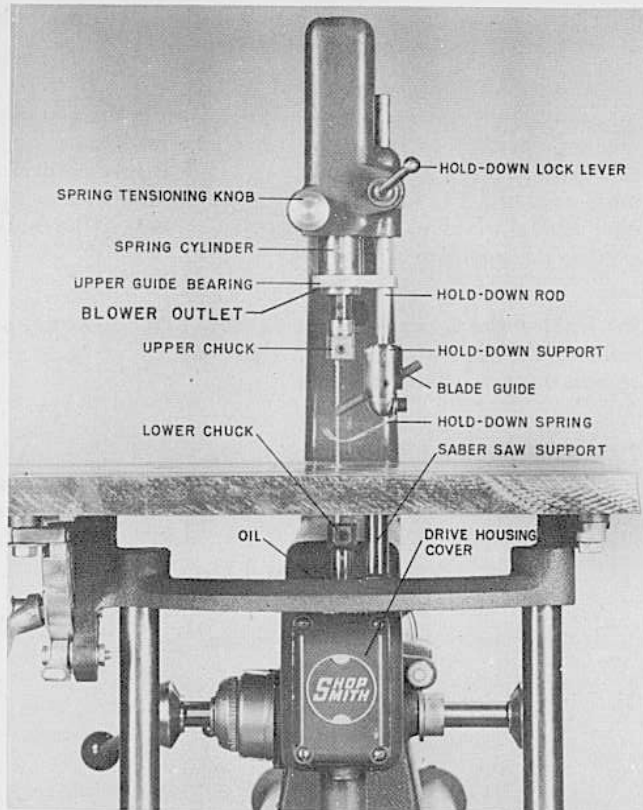

Fig. 3
2. On the bearing below the lower chuck (Fig. 3).